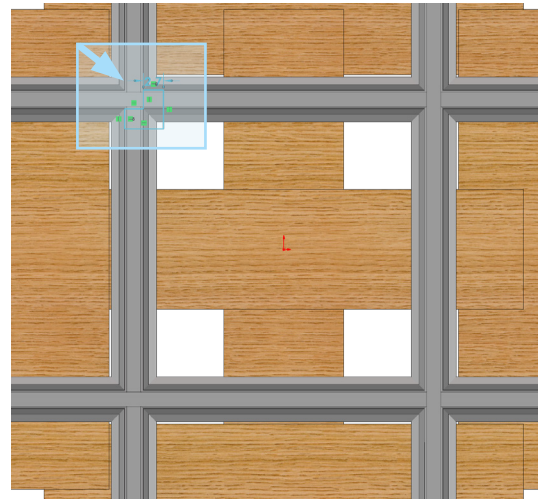

Fig. 13
Step 11. **Ctrl drag** a selection to **select all lines**, **Fig. 13**.